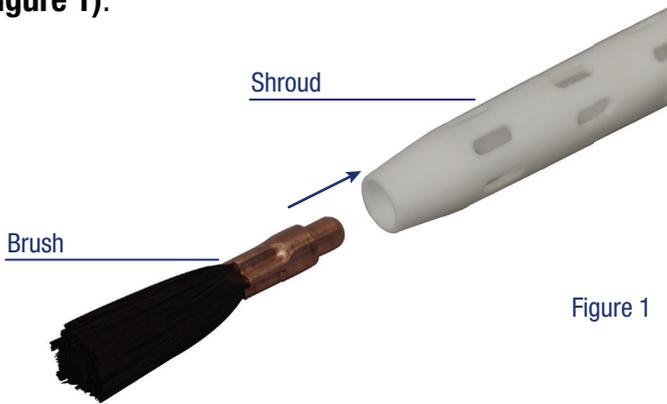

Figure 1
2. Insert the brass end of the Brush into the nose of the Shroud until it is seated in the Collet. The Brush should slide into the Collet with minimal resistance (see figure 1).